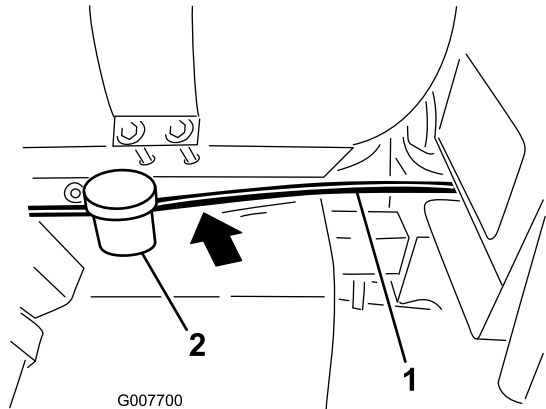

Figure 13
2. Route the hose from the foam marker bracket forward, below the chemical tank and behind the fuel tank, along with existing wiring to the area under the seat box (Figure 13).